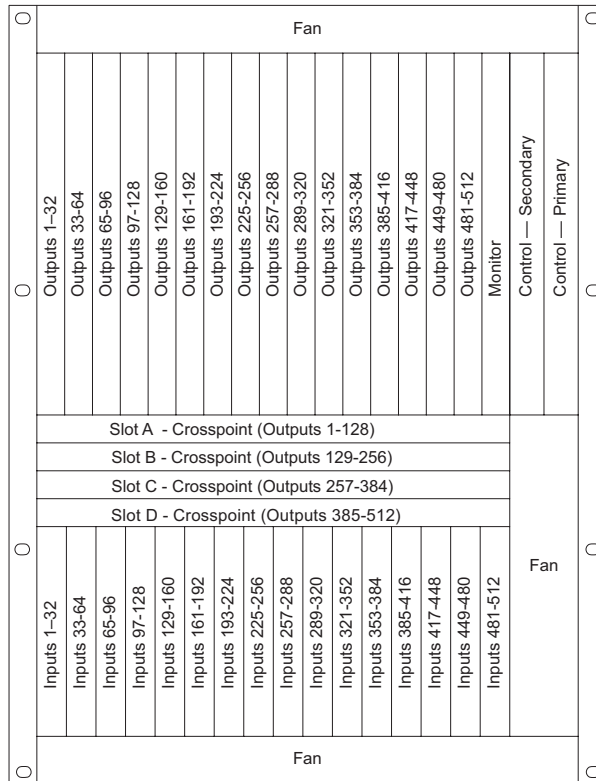

Figure 2-7. Location of Secondary Control Card (Front View)
- 1 Locate the secondary (redundant) control card slot, as shown in Figure 2-7.